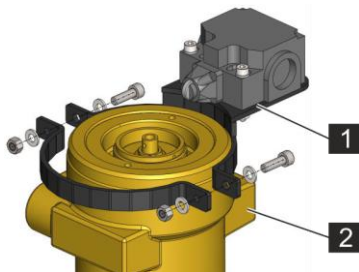

Fig. 97: Removing the clamp
2. ➤ Fasten both halves of the clamp (Fig. 97/1) to the upper collar of the valve (Fig. 97/2) with a torque of $5 \pm 0.5 \text{ Nm}$ ($3.69 \pm 0.37 \text{ ft-lb}$).